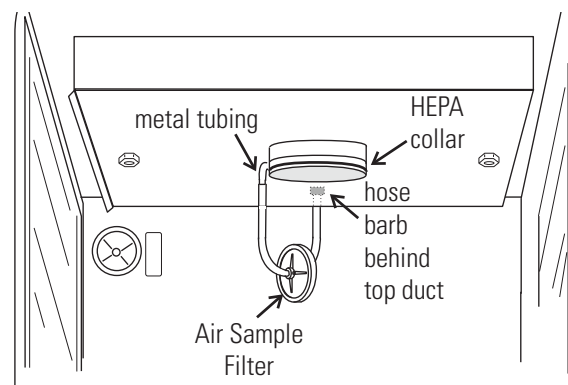

Figure 1-18. Air Sample Filter Installation
3. Insert the other end of the filter assembly onto the metal tubing on the top duct. Refer to the Figure 1-18.
3. Install the filter as shown in Figure 1-18. Refer to Section 5 for HEPA filter maintenance.